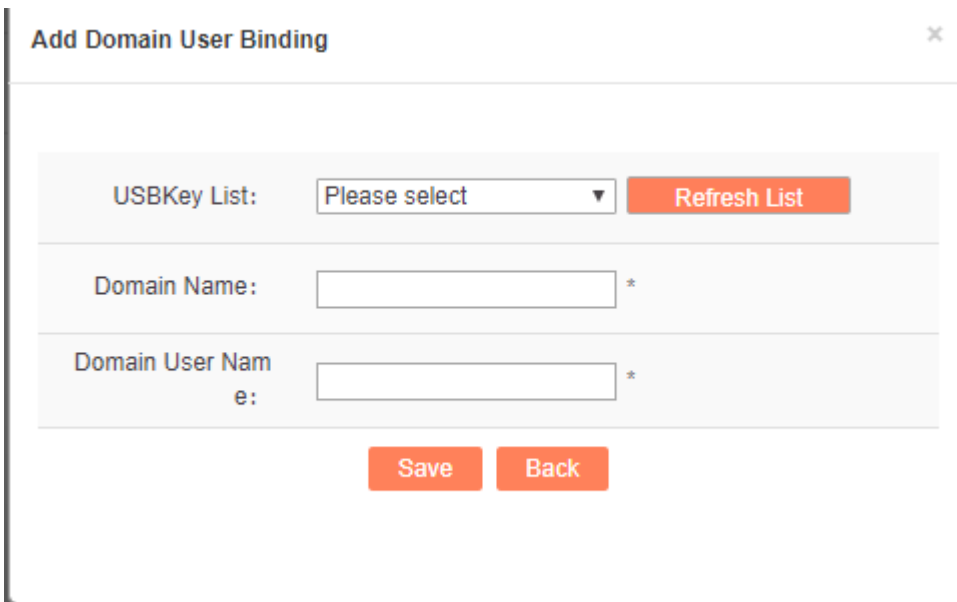

Fig.4-79 Domain User Binding Interface
1) Click <Add> to add the domain user USBKey binding relationship (as shown in Fig.4-79):